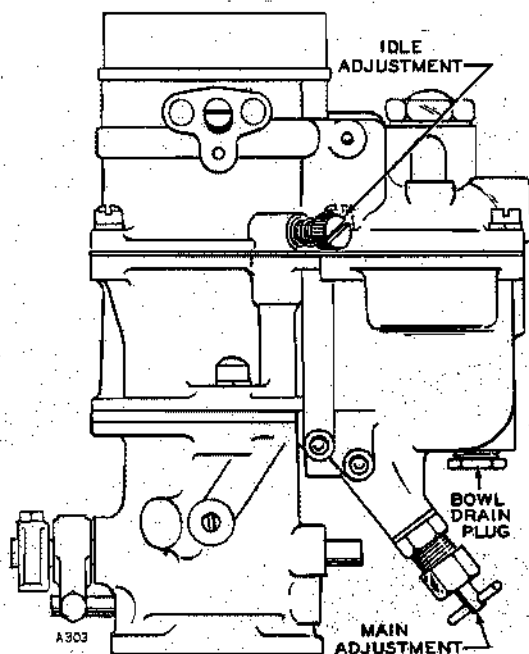

FIG. 14. GASOLINE CARBURETOR ADJUSTMENTS
**FUEL SYSTEM.** - Remove the drain plug (see Figure 14.) at the bottom of the carburetor to drain off any sediment. Install the plug securely. Remove the filter bowl and screen from the fuel pump, clean thoroughly, and replace. After servicing is completed, inspect carefully against leaks.
**CARBURETOR, GASOLINE.** - The carburetor has main and idle adjusting needle valves (Fig. 14. ). The main adjusting needle, at the bottom of the carburetor, affects the operation at the heavier load conditions. The idle adjusting needle, at the side of the carburetor, affects the operation at the light and no load conditions.